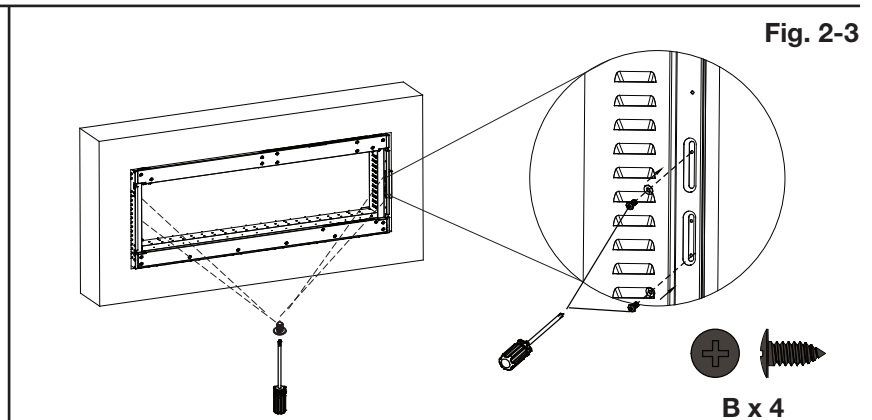

Fig. 2-3
- G. Secure appliance to the brackets using 4 screws (supplied) and the slots from the appliance (**Fig. 2-3**).